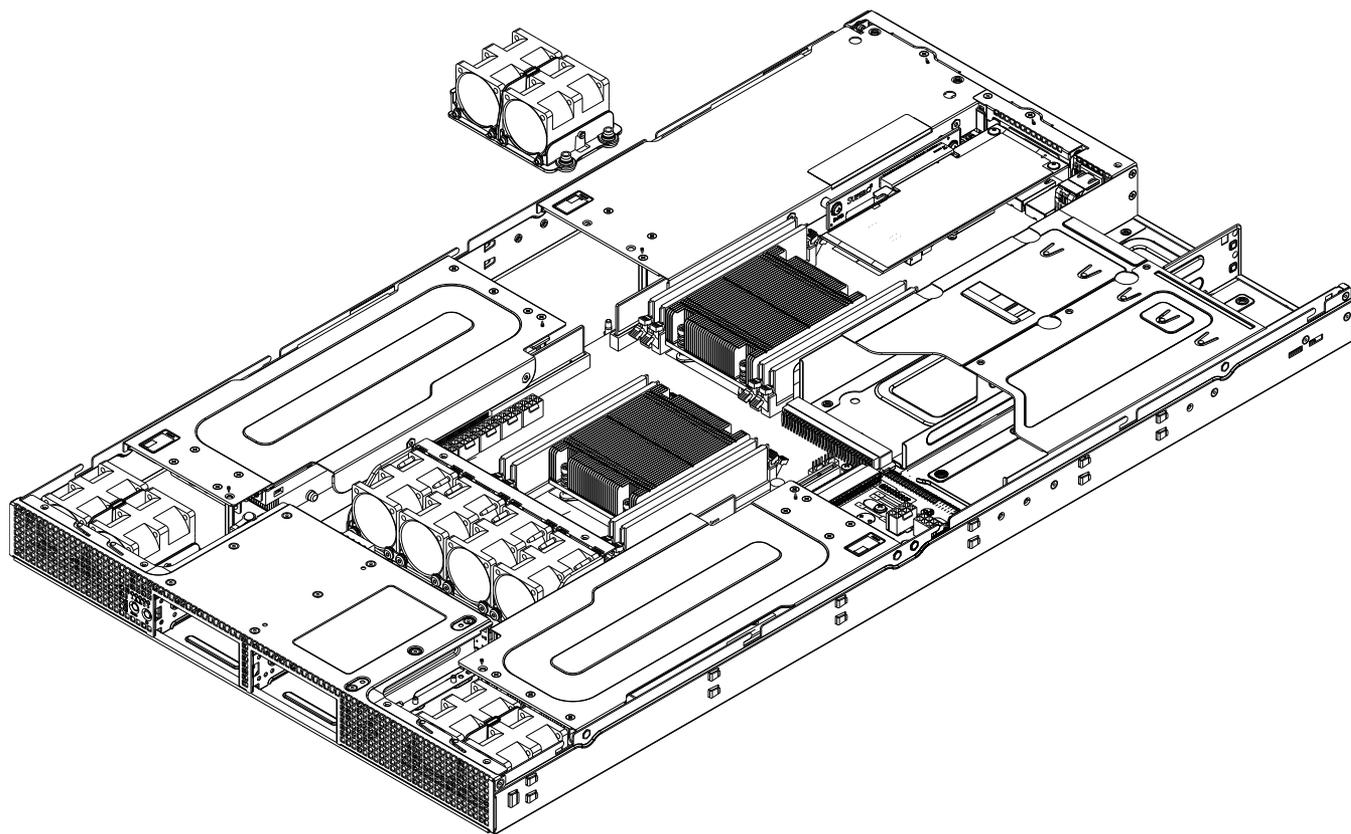

Figure 6-7 Remove/Replace Fan Assembly Example
5. Lift the assembly housing the failed fan from the fan tray and out of the chassis, see the example in Figure 6-7 on page 53.